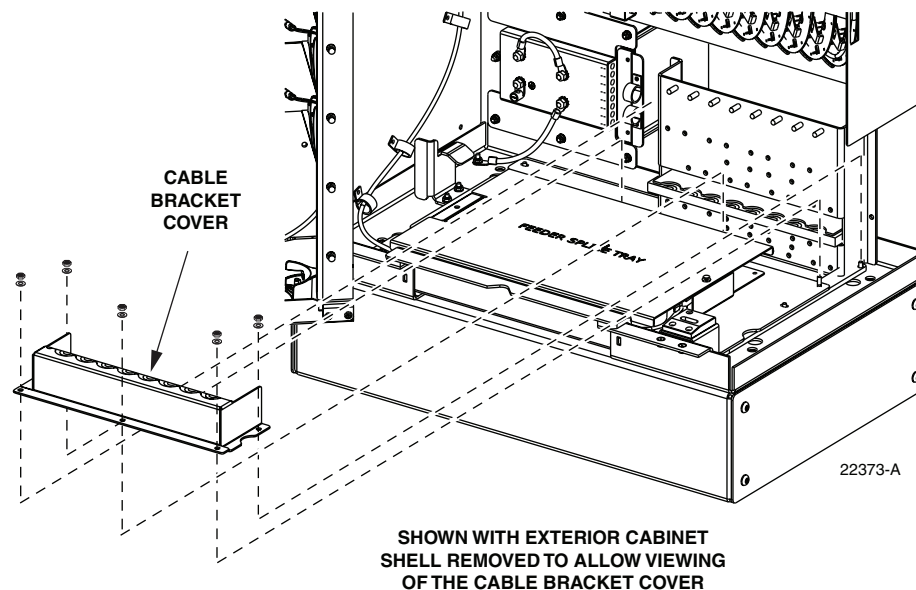

Figure 15. Cable Bracket Cover Removal/Installation
1. Remove the five nuts and flat washers that secure the cable bracket cover to the bottom of the cabinet as shown in Figure 15. Save all nuts and washers for later re-installation.